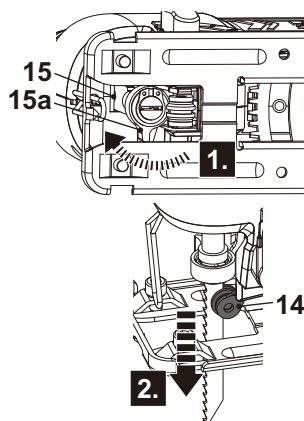

Fig. 2
1. Unlock the saw blade holder (15) by turning the locking sleeve (15a) in an anti-clockwise direction and hold it in position. (Fig. 2).